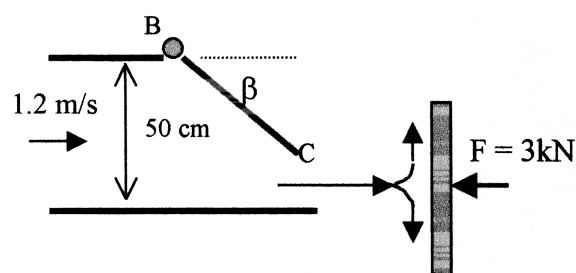

Fig. P3.57
**3.57** Water flows through the duct in Fig. P3.57, which is 50 cm wide and 1 m deep into the paper. Gate BC completely closes the duct when  $\beta = 90^\circ$ . Assuming one-dimensional flow, for what angle  $\beta$  will the force of the exit jet on the plate be 3 kN?